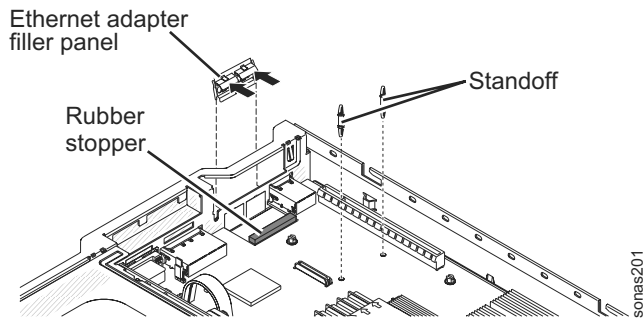

Figure 14. Location of the Ethernet adapter filler panel on the chassis
5. Remove the Ethernet adapter filler panel on the rear of the chassis (if it has not been removed already). See Figure 14.